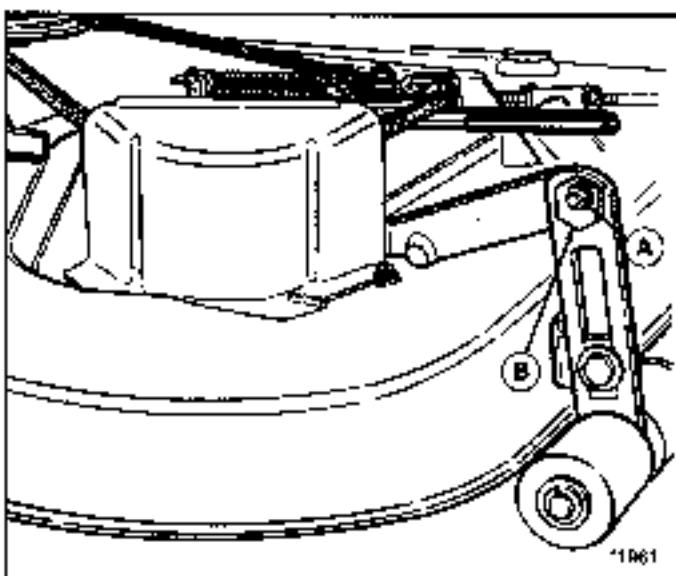
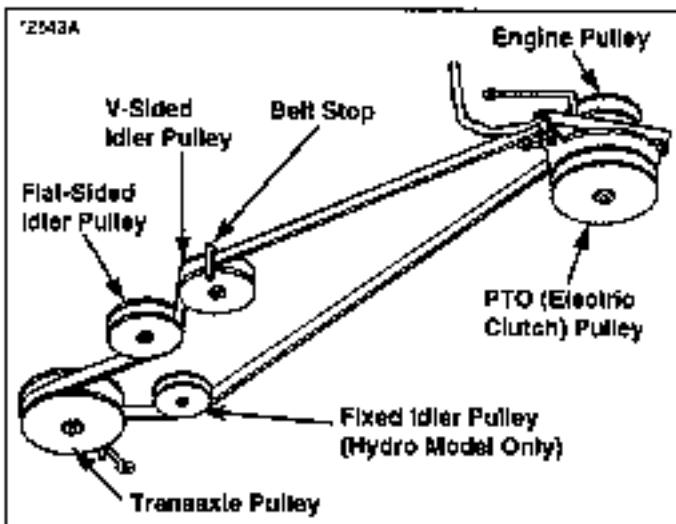

Figure 32. Leveling The Mower Side-to-Side
Figure 36. Tractor Drive Belt Routing
5. See figure 32. Loosen the outside nut (A). Turn the eccentric nut (B) to raise or lower left-hand side of mower. When mower is level, hold the eccentric nut while tightening the outside nut.
- See figure 36. Slip belt from transaxle pulley and fixed idler pulley (hydro models). Remove belt.
- Install new belt to idler pulleys as shown in figure 36.
- Install new belt to the idler pulleys as shown in figure 36. Make sure belt is properly routed on flat and V sides. Tighten capscrews (A, figure 32) securing pulleys. Adjust belt stops for $1/8$ " clearance from pulleys.
- See figure 36. Check belt routing around engine pulley, idler pulleys, and transaxle pulley. Check that the electric clutch, drag link and idler pulley spring are all correctly installed.